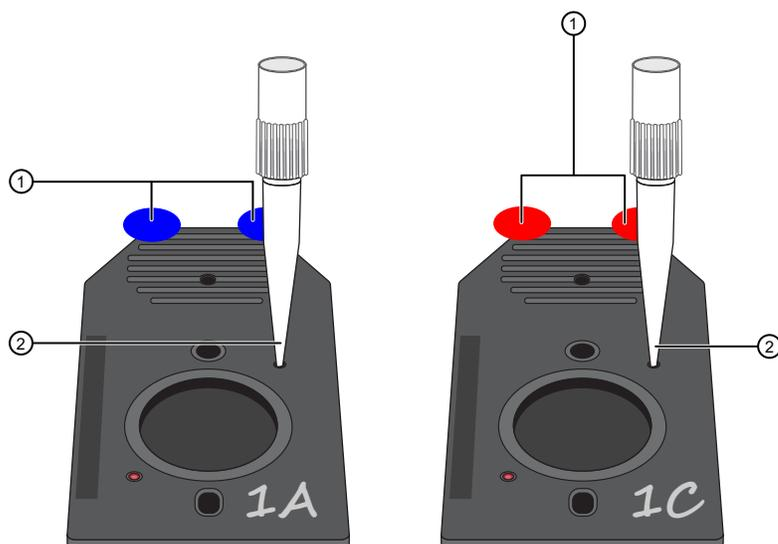

Figure 31 Prepare the arrays by applying Tough-Spots™ label dots and venting the array.
2. Vent the array by inserting a 200 µL pipette tip into the upper right septa of each array. (Figure 31.)